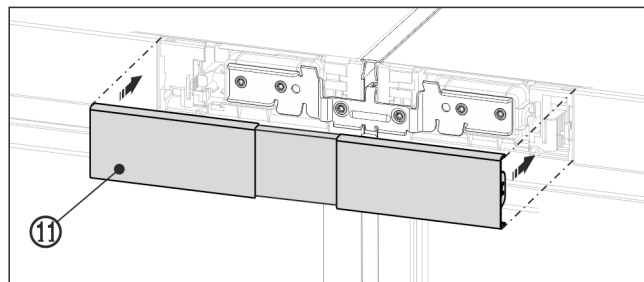

Fig. 20 Example illustration
- Snap the top cover Fig. 20 (11) onto the still open gap between the two control panel trims. Make sure that the outer sides of the cover form a flush finish with the control panel trims.